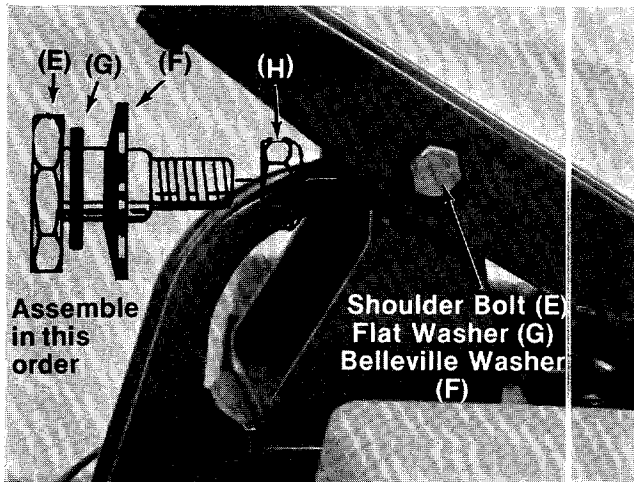

FIGURE 8.
2. Place flat washer (G) and belleville washer (F) over shoulder on shoulder bolt (E). Place shoulder bolt through handle mounting holes. Secure with hex top lock nut (H) from the inside of handle. See figure 8.